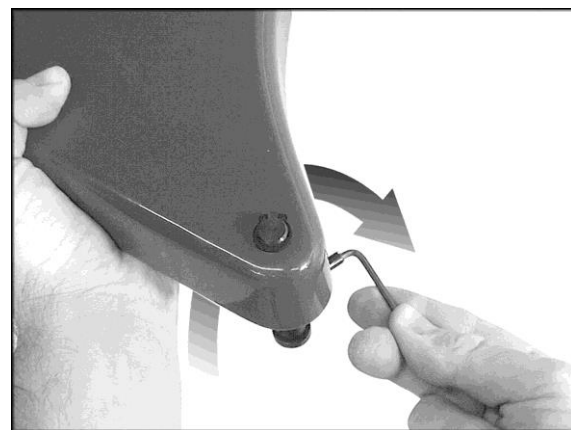

Figure 6-2
2. Twist the hex wrench and pin clockwise, as shown in Figure 6-2, and hold them there.